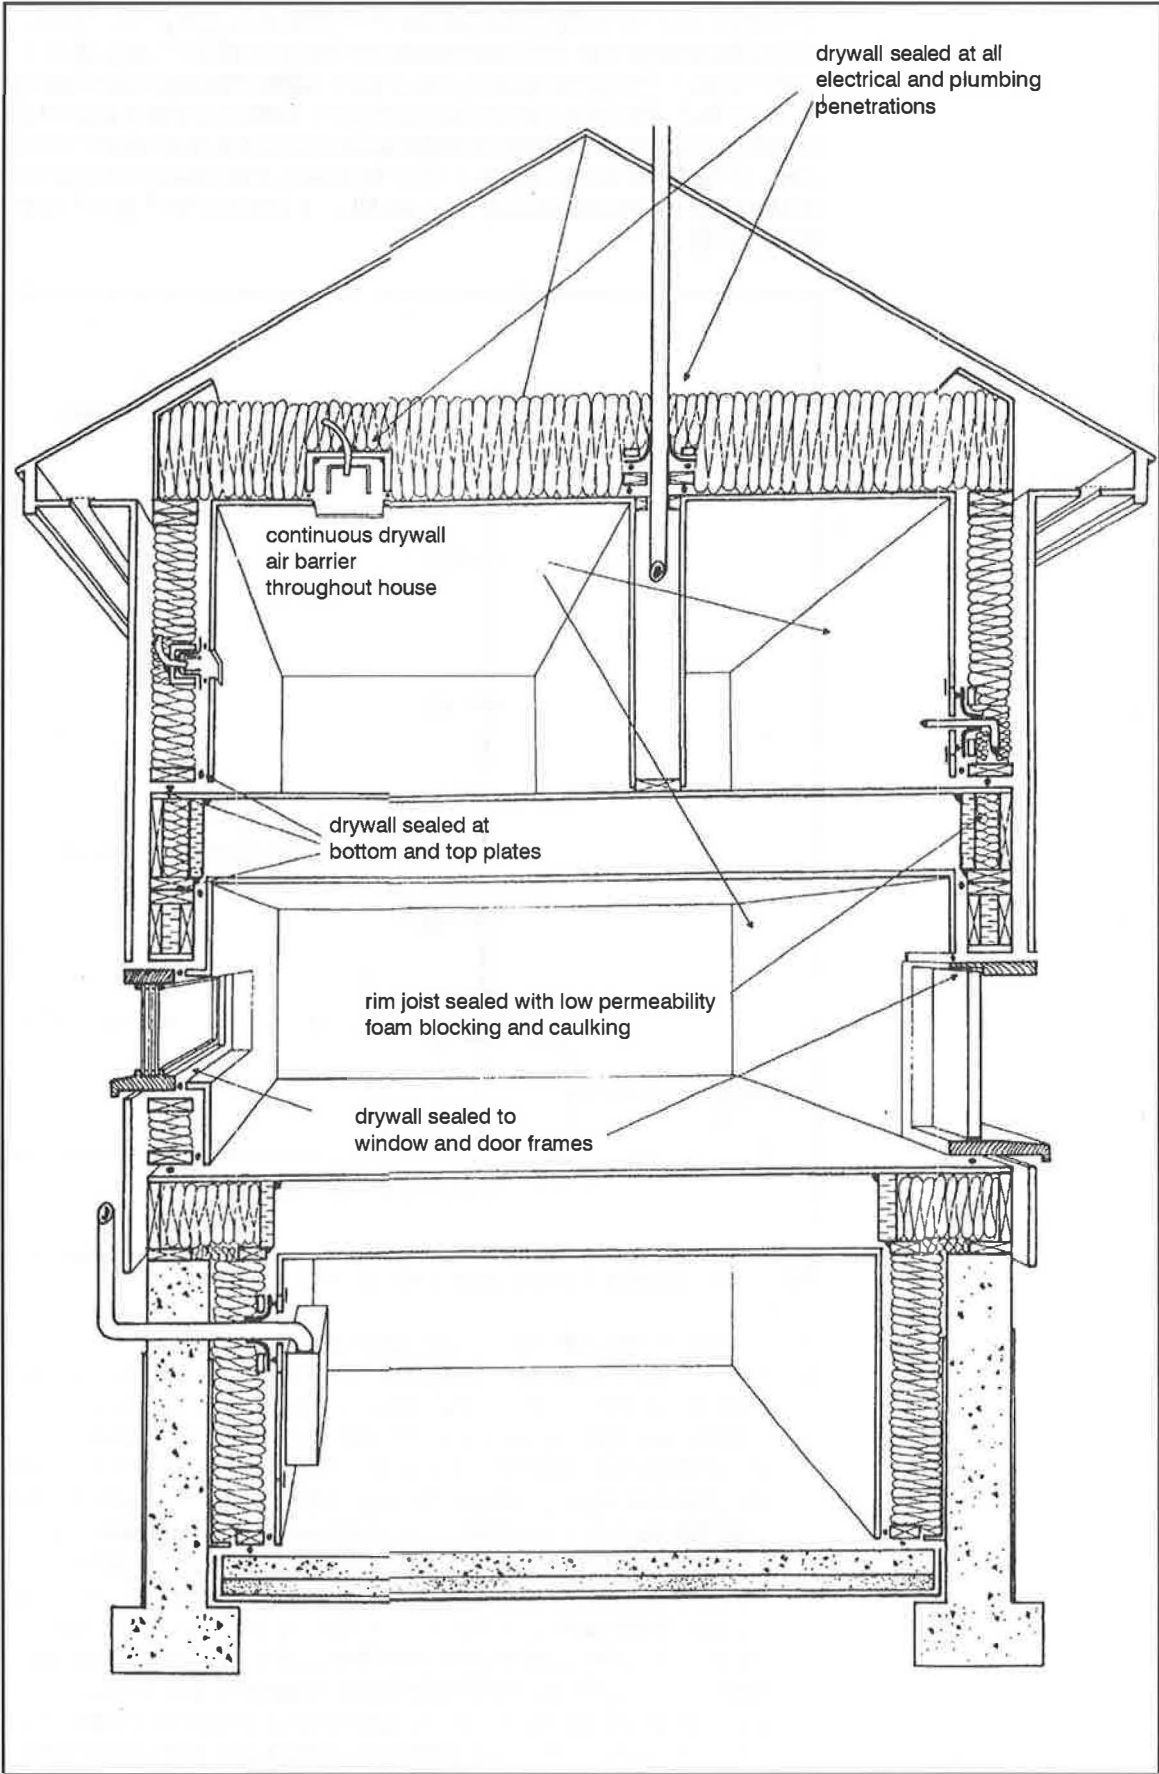

Fig. 4. Continuous drywall air barrier
- Construct the house with a continuous air barrier (*fig. 4*). Air barriers are described in detail in CMHC's Builders' Series publication *Moisture Problems*.